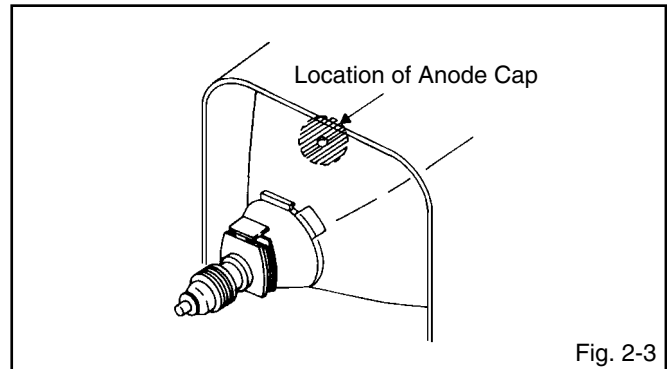

Fig. 2-3
1. Clean the spot where the cap was located with a small amount of alcohol. **(Refer to Fig. 2-3.)**